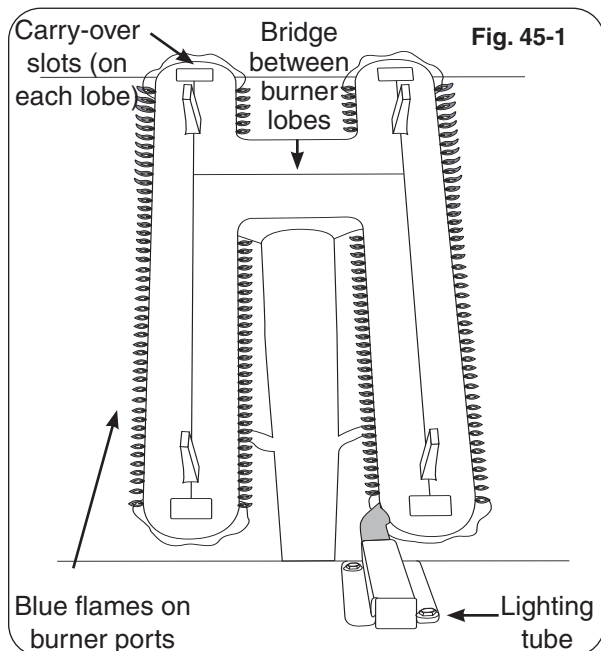

Fig. 45-1
Flames from a properly adjusted main burner with no wind or breeze present will appear fairly steady, consistent, and mostly blue. If the tip of a flame were to turn orange, it should only do so briefly and then become blue again. The flames will appear to burn while touching the burner ports (see Figure 45-1).
6. Repeat steps 1-4 until the flames appear to touch the burner ports, burning fairly steadily and mostly blue (see Fig. 45-1).